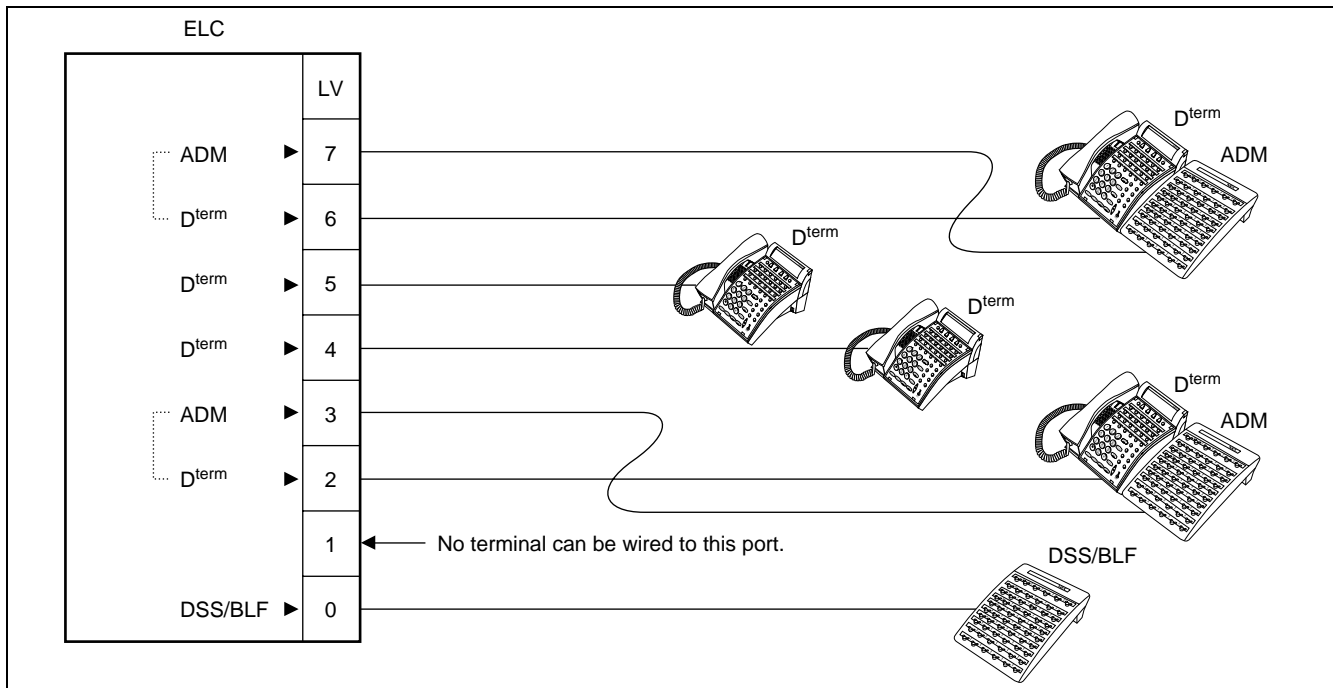

Figure 1-5 Example of Port Allocation on an ELC Card
1. A DSS/BLF and an Add-On Module can coexist on one circuit card. Figure 1-5 illustrates an example of port allocation on an ELC circuit card.